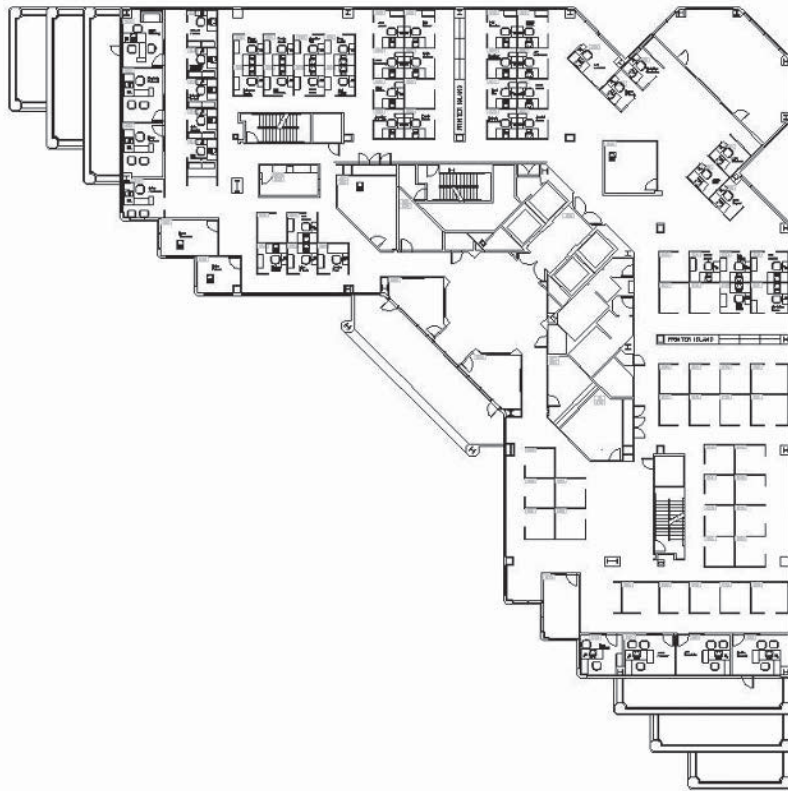

Fig. 14-7
1. As the person responsible for computer allocation, you need to know how many offices are without computers. Open the **db\_samp.dwg** file in AutoCAD's **Sample/Database Connectivity** folder (Fig. 14-7). Using dynamic zoom and pan as necessary, make a list by office number of offices that do not have computers. Do not save any changes you may have made to the drawing.